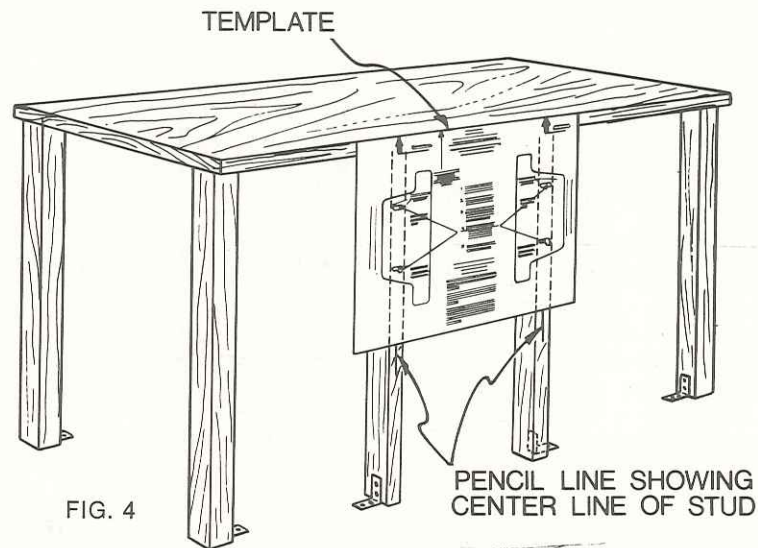
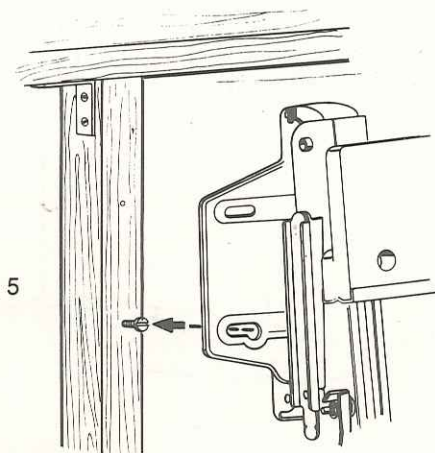

FIG. 4
FIG. 5
4. Tape the provided template to the studs you just mounted so that the top edge of the template is even with the top of the workbench and the center line (C) markings of the template align with the center lines of the studs. (As an aid, you can mark the stud center lines with a pencil before mounting the template). See Figure 4.
5. Disregarding the "STUD CENTERING PROCEDURE" at the lower center of the template, drill (4) $\frac{3}{16}$ " diameter pilot holes 3" deep as indicated on the template.
6. Remove the template and following the pilot holes you just drilled, drill (4) $\frac{1}{4}$ " diameter by $\frac{3}{4}$ " deep clearance holes. Use a drill stop or other means to insure that these holes are exactly $\frac{3}{4}$ " deep. **CAUTION: IF THEY ARE DRILLED TOO DEEP, A HAZARDOUS CONDITION MAY RESULT.**
8. Slip the Work Center's mounting bracket over these two screw heads as shown in Figure 5 and slide the Work Center slightly to the right.
7. Slip the Work Center's mounting bracket over these two screw holes as shown in Figure 5 and slide the Work Center slightly to the right. NOTE: Figure 5 depicts mounting to a visible stud. You are mounting to a wall but the principal is the same.